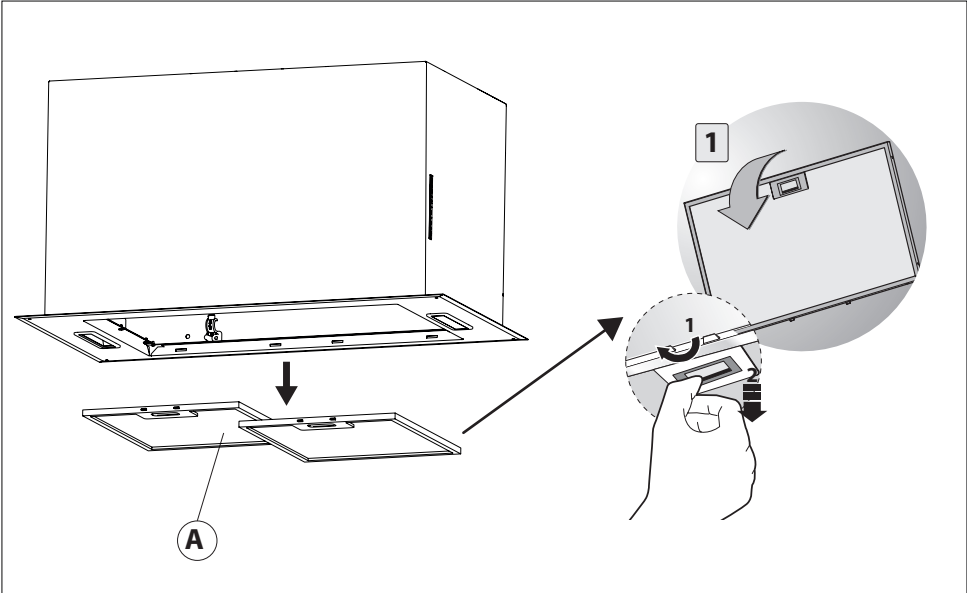

Fig.2
• The minimum distance between the support surfaces of the cooking pots on the cooker top and the lowest part of the cooker hood must be at least **65 cm**. If a connection tube composed of two parts is used, the upper part must be placed outside the lower part. Do not connect the cooker hood exhaust to the same conductor used to circulate hot air or for evacuating fumes from other appliances generated by other than an electrical source. Before proceeding with the assembly operations, remove the anti-grease filter(s) **A** (Fig. 2) so that the unit is easier to handle.